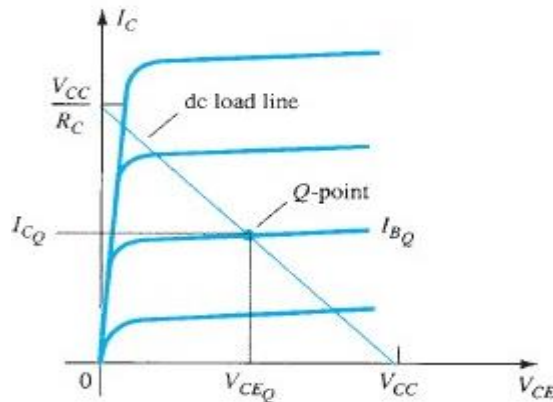

Fig.4 Transistor characteristic showing load line and Q-point.
To appreciate the importance of the dc bias on the operation of the power amplifier, consider the collector characteristic shown in Fig.4 .A dc load line is drawn using the values of V_{CC} and R_C . The intersection of the dc bias value of I_B with the dc load line then determines the operating point (Q - point) for the circuit. The quiescent-point values are those calculated using Eqs.(1) through (3). If the dc bias collector current is set at one-half the possible signal swing (between 0 and $V_{CC} > R_C$), the largest collector current swing will be possible. Additionally, if the quiescent collector–emitter voltage is set at one-half the supply voltage, the largest voltage swing will be possible.